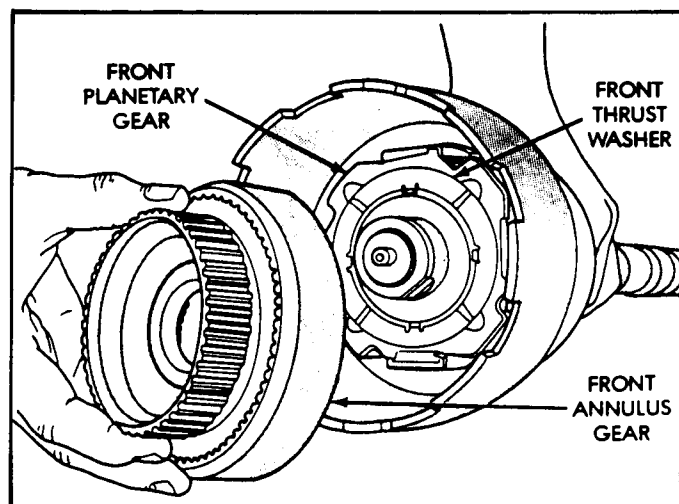

Figure 84
17. Install the front planetary onto the intermediate shaft, engaging the spline area and the gears (See Figure 84).
19. Install front ring gear onto the front planetary, engaging the gears, shown in Figure 84.